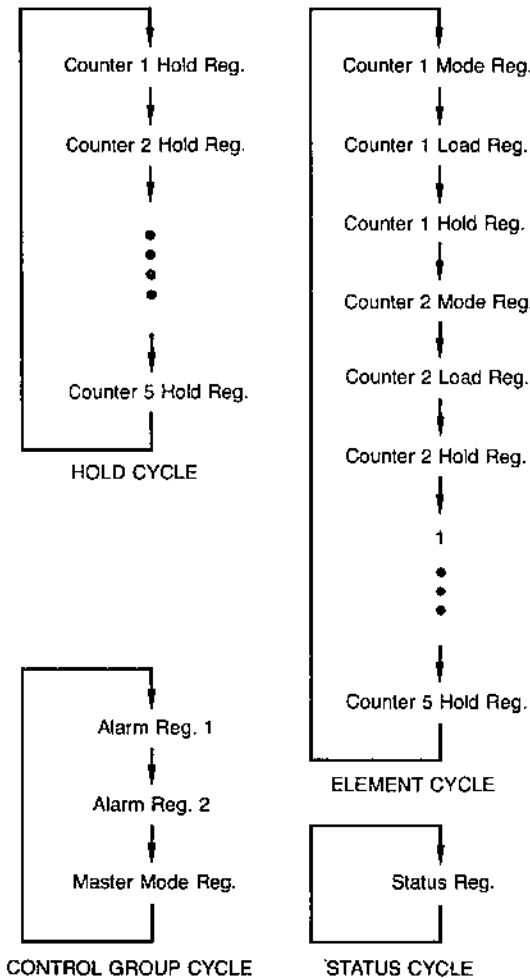

Figure 10. Data Pointer Sequencing.
To permit the host processor to rapidly access the various internal registers, automatic sequencing of the Data Pointer is provided. Sequencing is enabled by clearing Master Mode bit 14 (MM14) to zero. As shown in Figure 10, several types of sequencing are available depending on the data bus width being used and the initial Data Pointer value entered by command.
1. Using Figures 8 and 9, select the appropriate Data Pointer Group and Element codes for the register to be accessed. Note that two codes are provided for the Hold registers, to accommodate both the Hold Cycle and Element Cycle auto-sequencing modes shown in Figure 10. If auto-sequencing is disabled, either Hold code may be used.
The Data Pointer register is now set. Setting the Data Pointer register automatically sets the Byte Pointer to 1, indicating a least significant byte is expected for 8-bit data bus interfacing. If Master Mode register bit MM14 = 0, the Data Pointer will automatically sequence through one of the cycles shown in Figure 10 after reading or writing each register. For convenience, bit MM14 can be set or cleared by software command.